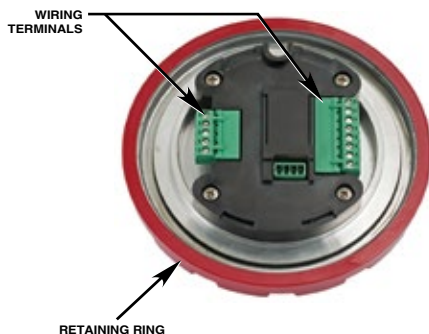

Figure 7—Location of Wiring Terminals
2. Unscrew the retaining ring to gain access to the wiring terminals (see Figure 7), and complete the installation of the system conduit. Feed the external wiring through the remaining junction box entry or M25 to 3/4 inch adapter. When installing the junction box, use care not to damage the wires and refrain from twisting them.